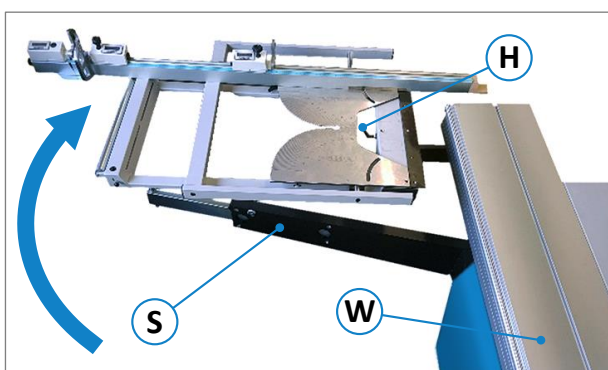
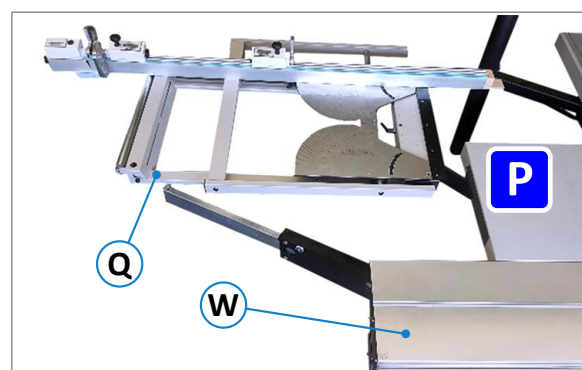

Figure 88: Swivel away cross slide
Figure 89: Final parking position
- Turn the cross slide (**Q**) by 90° to the right. Then swivel it backward to bring it into its final parking position behind the slide table (see ⇒ Figure 88 and ⇒ Figure 89).